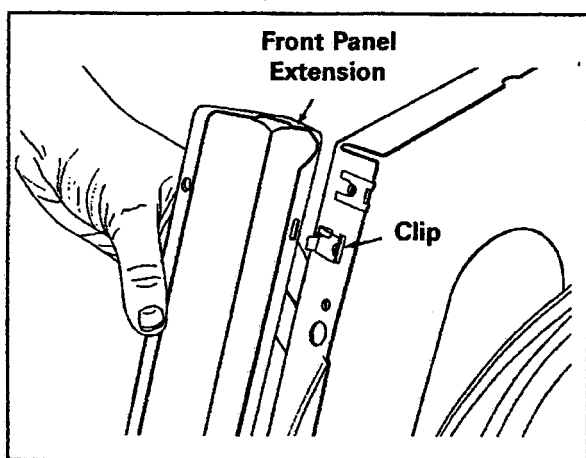

Figure 2-9
4. To remove the front panel, twist the upper right and left panel extensions inward to disengage from clips located on the cabinet flange (*Figure 2-9*).